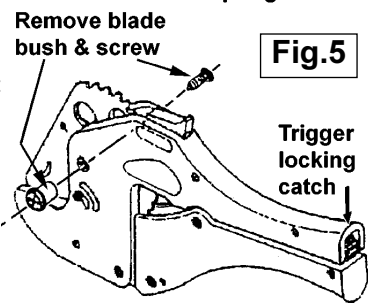

Fig.5
3.4.1. Close the blade and lock the catch at the base of the trigger handle. (See fig.5).
3.4.2. Remove the blade bush and screw using two Phillips screwdrivers. (See fig.5)
3.4.3. Using a pair of long nosed pliers unhook the spring from the attachment hole in the blade (See fig.5) and allow the spring to partially retract into the body of the cutter.